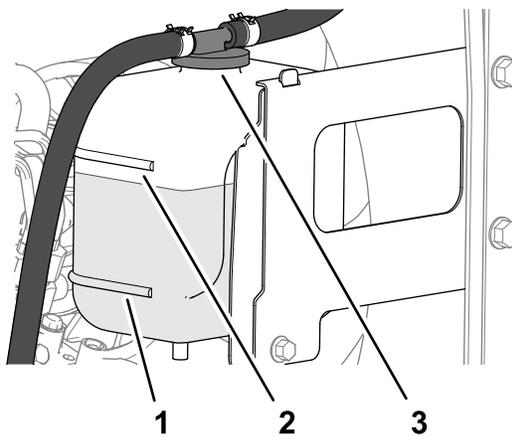

Figure 109
3. Check the level of coolant in the expansion tank (Figure 109).